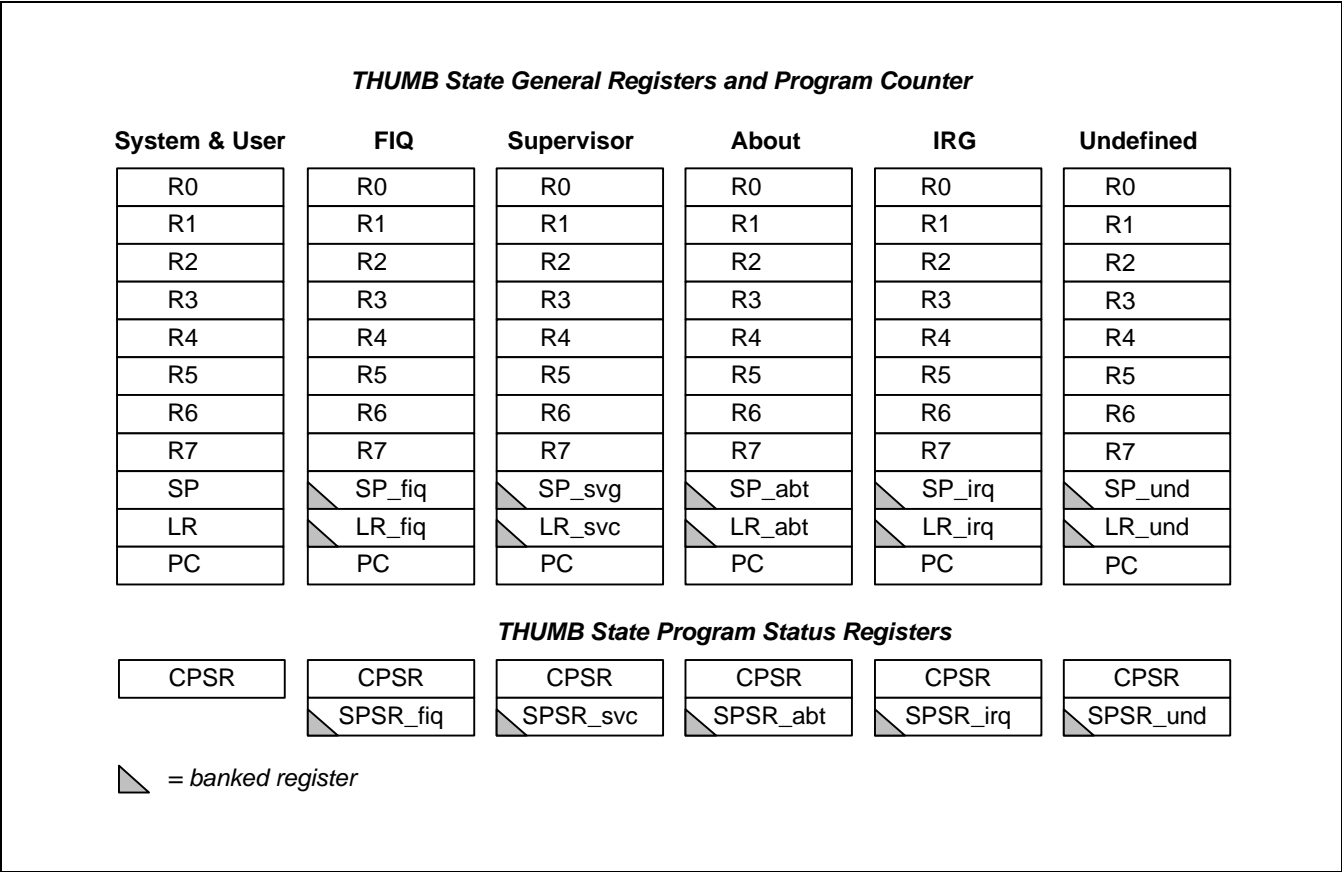

Figure 2-4. Register Organization in THUMB State
The THUMB state register set is a subset of the ARM state set. The programmer has direct access to eight general registers, R0–R7, as well as the Program Counter (PC), a stack pointer register (SP), a link register (LR), and the CPSR. There are banked stack pointers, link registers and Saved Process Status Registers (SPSRs) for each privileged mode. This is shown in Figure 2-4.